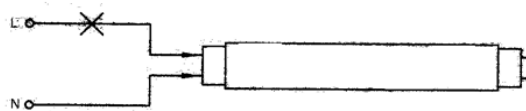

Fig. 4 Testing of Tube Rod
3. Test the filament on the both sides of the fluorescent tube for its continuity as shown in fig 4. Discard the fluorescent tube with open or fused filament in either side.